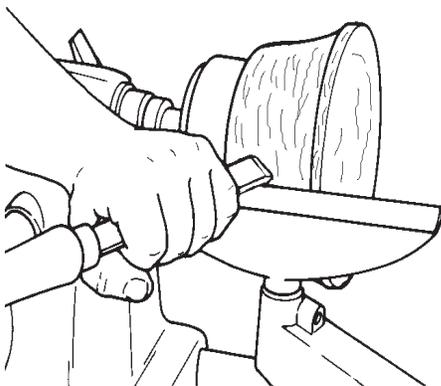

Figure D-52
3. Shaping the outside -- Make the beads and coves in the same manner as for spindle shaping. See Figure D-52. If the wood grain is perpendicular to the axis of rotation, do not shear.